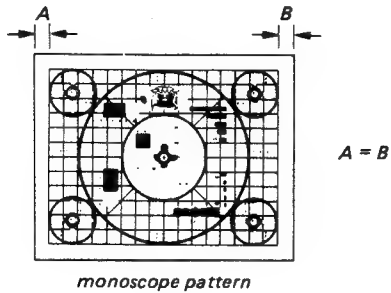

Fig. 31-3
- 7. Adjust RV7 on the DA board so that the blanking width at the right and the left sides are equal to as shown in Fig. 31-3.